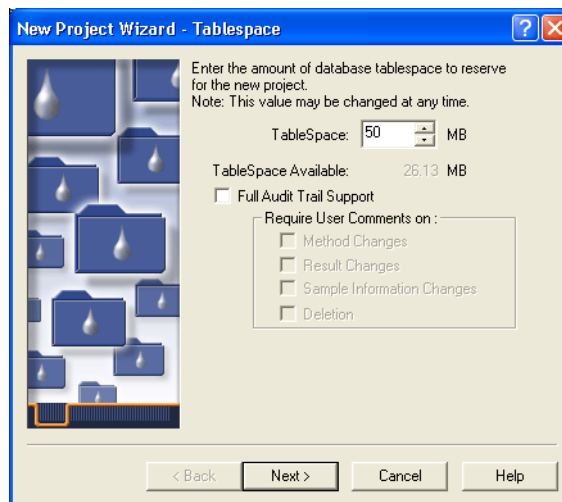

Figure 3-10 New Project Wizard–Tablespace Page
1. Select **Manage > Create New Project**. The New Project Wizard–Tablespace page appears (Figure 3-10).